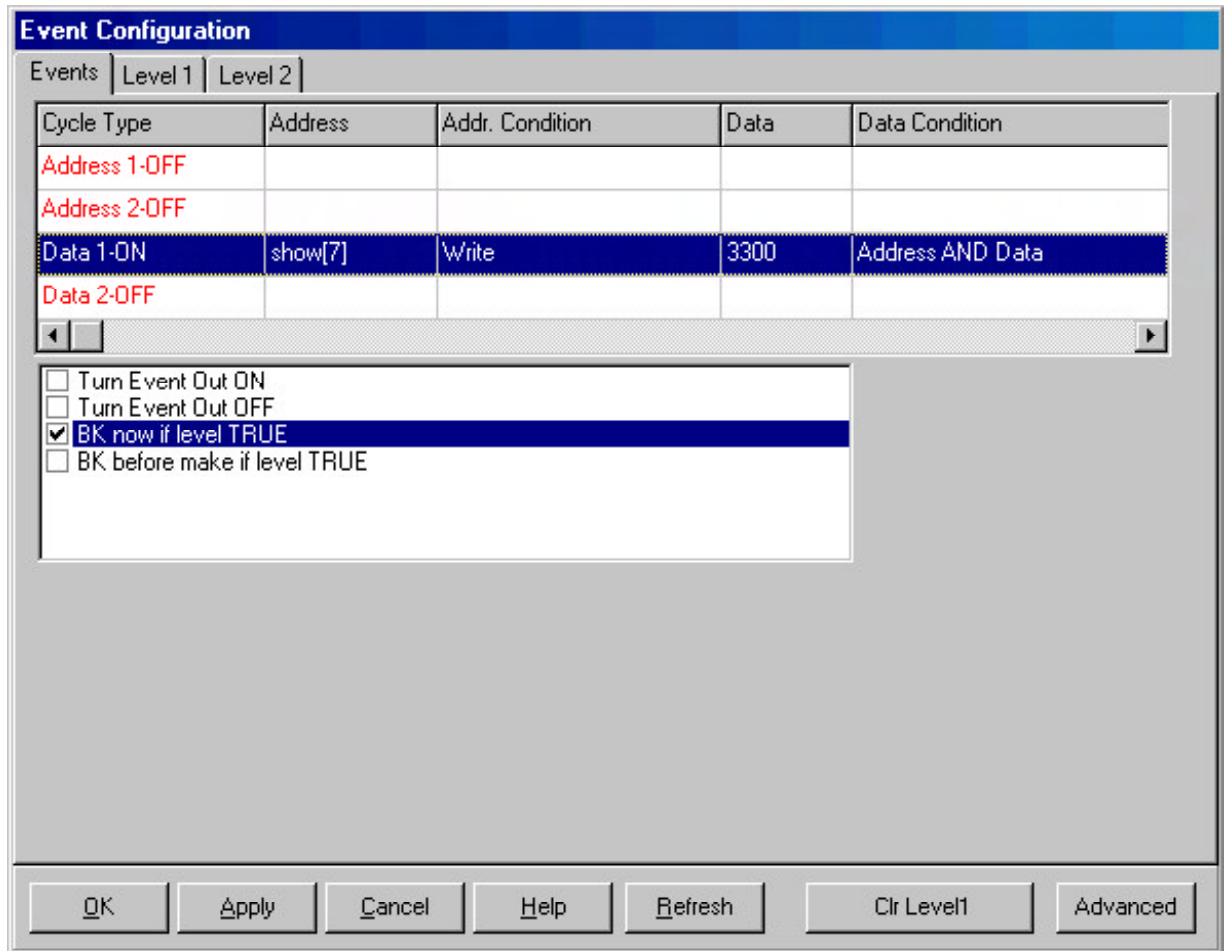

Figure 8. Example Settings for the Event Tab
10. Select BK now if level TRUE (figure 8).